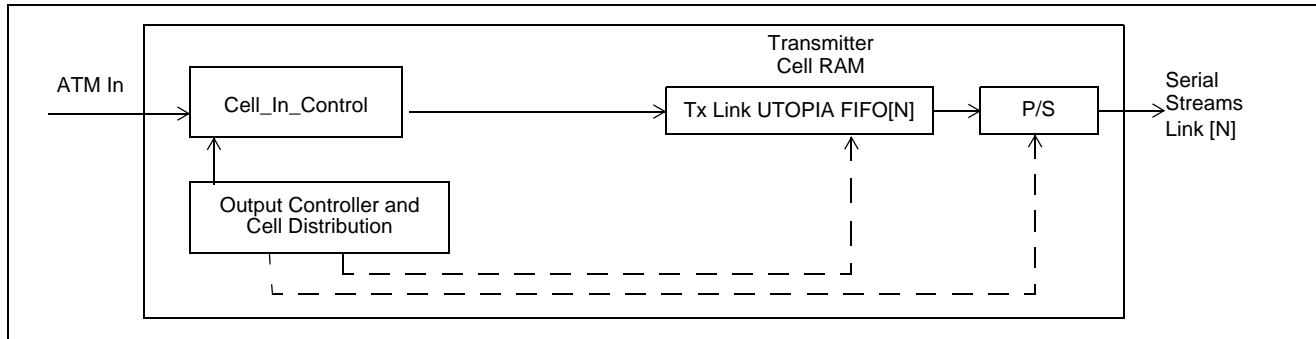

Figure 6 - Functional Block Diagram of the Transmitter in TC Mode (For Link[N], $0 \leq N \leq 15$)
A maximum of sixteen independent serial interfaces can be configured in TC mode (16 for the MT90224, 8 for the MT90223 and 4 for the MT90222). Figure 6 gives a functional block diagram of the transmitter in Transmission Convergence (TC) mode.